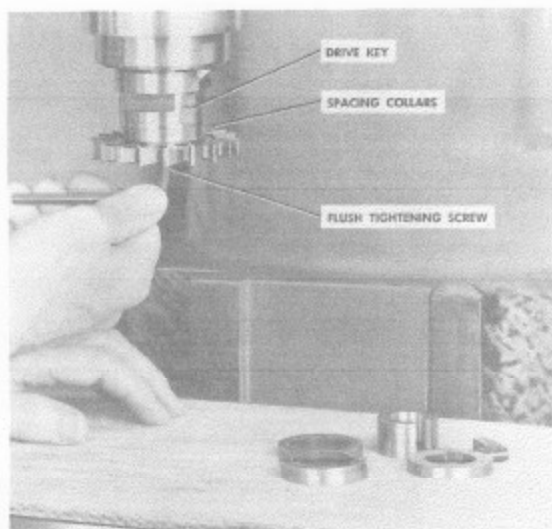

Fig. 38. Mounting milling cutter on flush milling arbor.
The flush milling arbor shown in Figs. 38 and 39 is designed to hold standard size milling cutters and dovetail milling cutters from 3" to 6" in diameter with $\frac{1}{8}$ " to $\frac{3}{4}$ " face and having either a 1" or a $1\frac{1}{4}$ " diameter arbor hole. The cutter is held by a split expansion taper bushing and flush tightening screw. It is driven by a key. Spacing collars are used to accommodate various face widths.
- B. Insert expansion bushing (with taper hole) and drive key in milling cutter, with rounded end of drive key up (see Fig. 38).
- D. Push assembly on arbor and tighten flush tightening screw as shown in Fig. 38. This will draw the cutter up tight against the shoulder on the flush milling arbor.